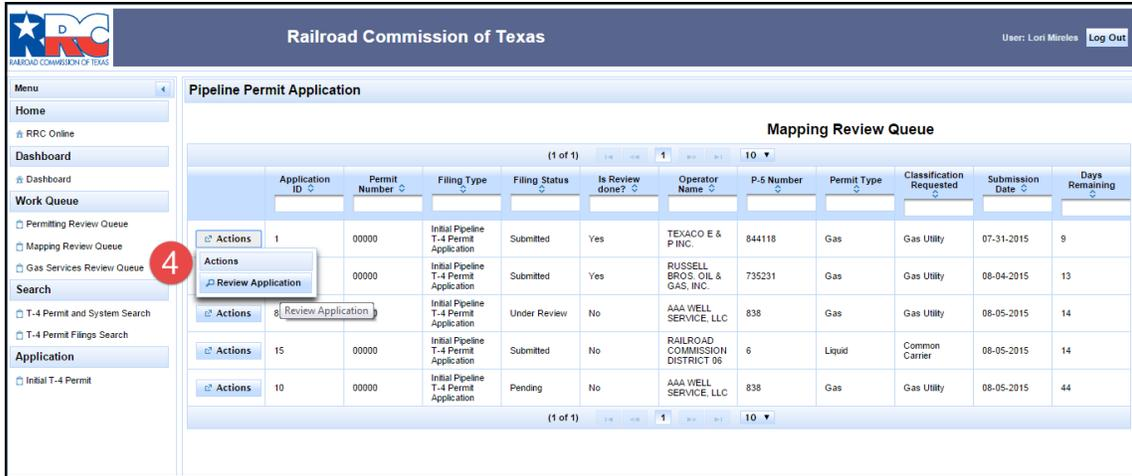

Figure 110: Open the Application in POPS
- Go to the submission entry in POPS; click **Actions > Review Application** for Application ID 8, as depicted in Figure 110.